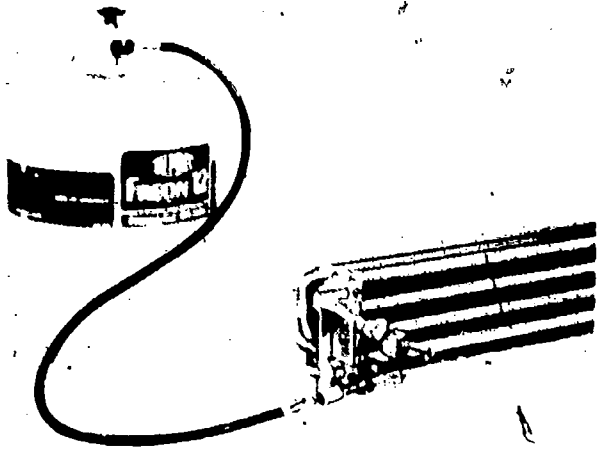

Fig. 80. — Connect Hose Between Refrigerant-12 And Component
1. Connect hose between Refrigerant-12 (or dry nitrogen) container and each component (Fig. 80).